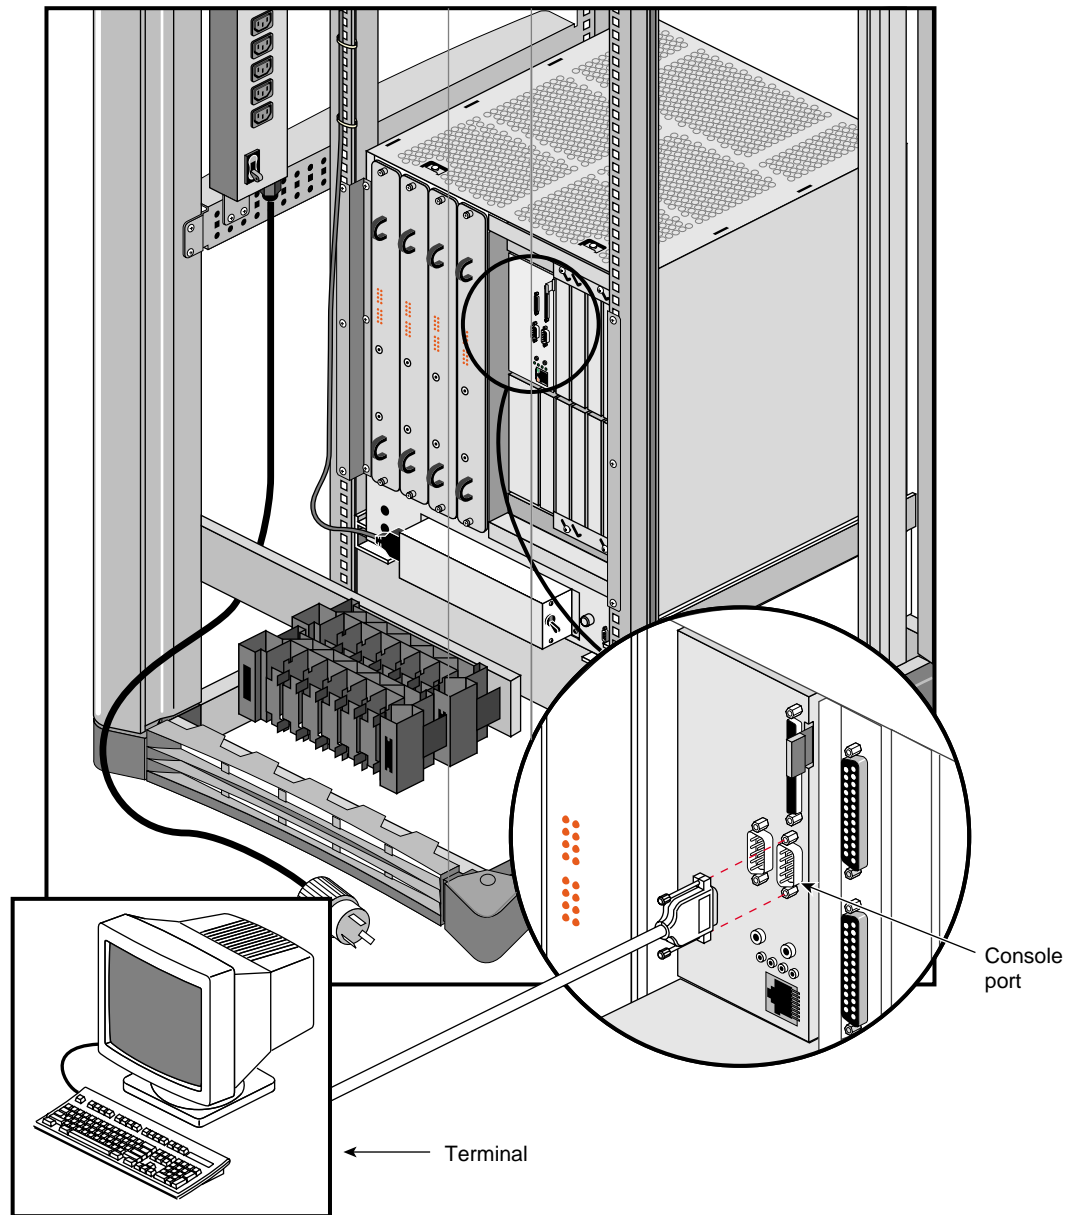

Figure 5-1 Connecting a Terminal
5. Attach the end of the cable with the 9-pin D-subconnector to the serial connector labeled "Console Port" on the module I/O panel, as shown in Figure 5-1.